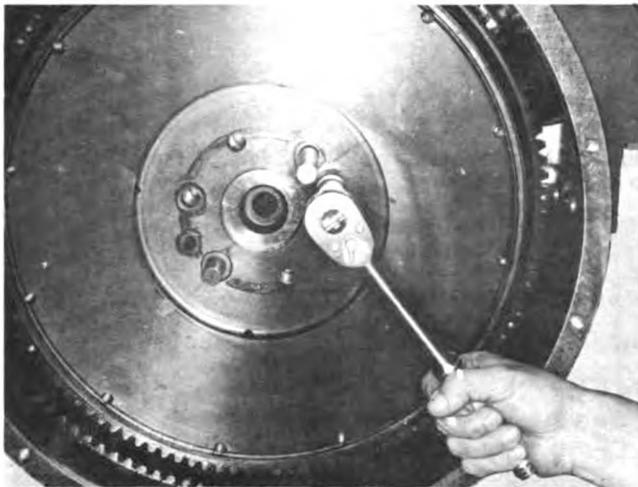

Fig. 0-48 (N100113). Push The Flywheel From The Crankshaft.
3. Install two capscrews into the flywheel puller holes. The capscrews must have a $\frac{1}{2}$ "-13 thread for their complete length. Turn the capscrews slowly to push the flywheel from the crankshaft, Fig. 0-48.